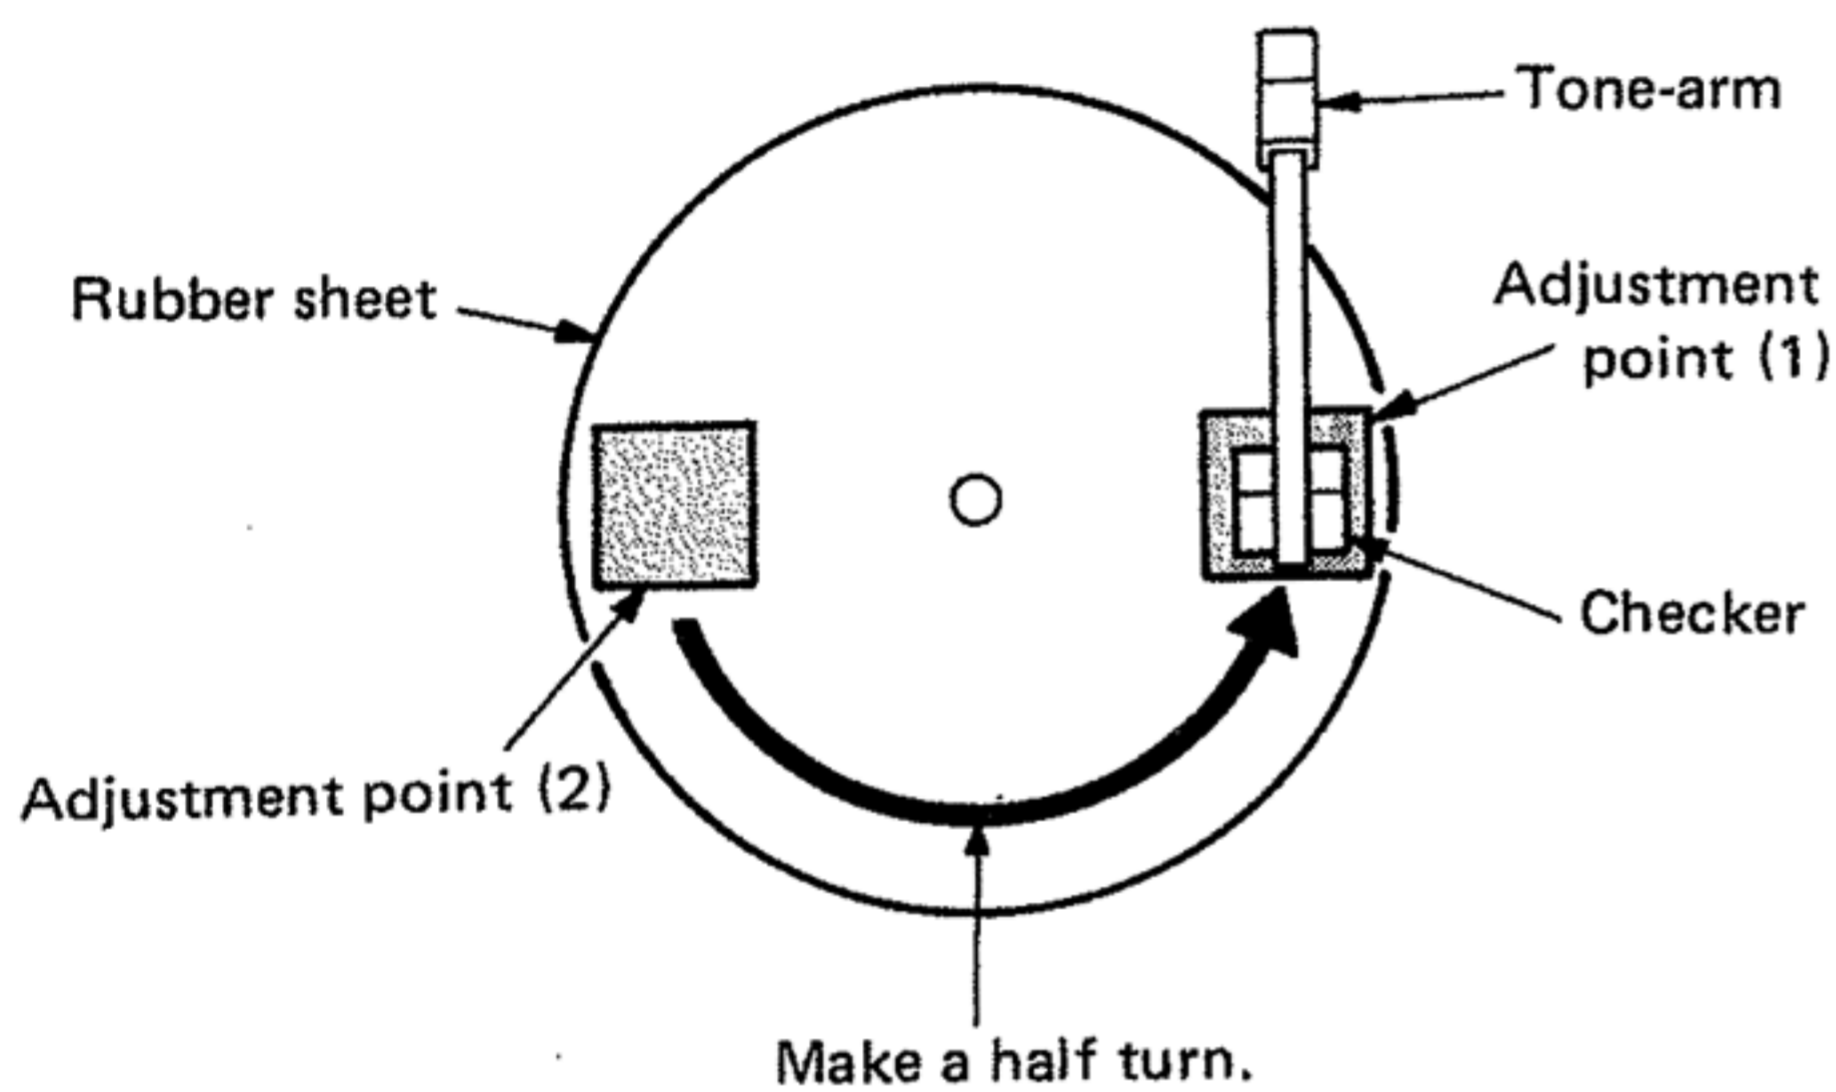

Fig. 2
- 2) After completed the adjustment point (1), make a half turn of the turn-table to confirm the stylus height of the adjustment point (2). If it is out of the specification, readjust the height for 4.5 ± 0.2 mm. (See Figure 2)